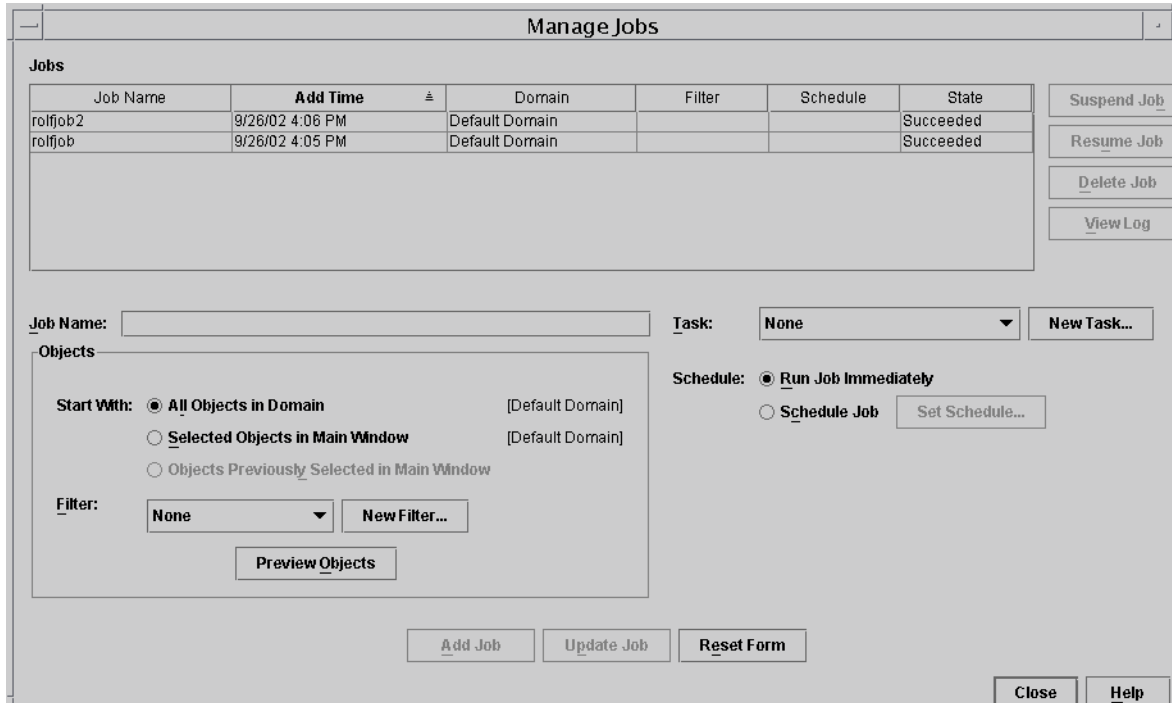

FIGURE 2-9 Manage Jobs Panel
The system displays the Manage Jobs panel (FIGURE 2-9), which allows you to distribute the Image File.
5. In the Manage Jobs panel (FIGURE 2-9), do the following: